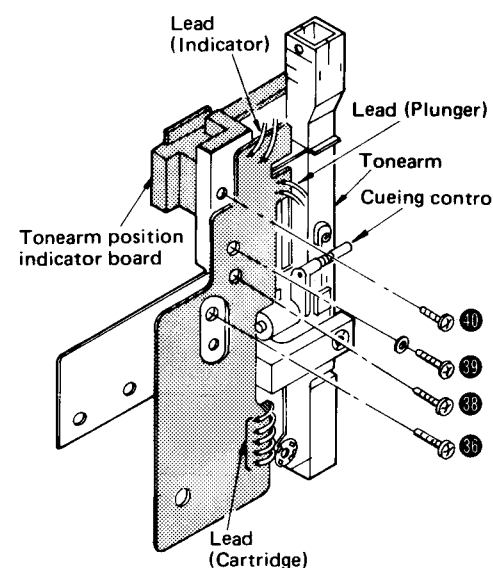

Fig. 10
3. Unsolder 5 leads of the cartridge. (Fig. 10)
4. Remove the setscrew of the tonearm board. (Fig. 10 : 36)
4. Remove the 2 setscrews of the cueing control ass'y. (Fig. 10 : 38, 39)
3. Unsolder 2 leads of the indicator. (Fig. 10)
4. Remove the setscrew of the tonearm position indicator board. (Fig. 10 : 40)